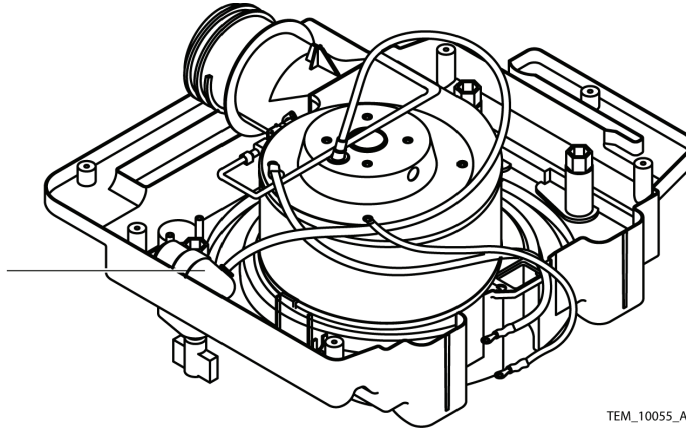

Figure 68. Blower Capacitor
22. Loosen the nut holding the capacitor to the rear cover assembly. See Figure 68.